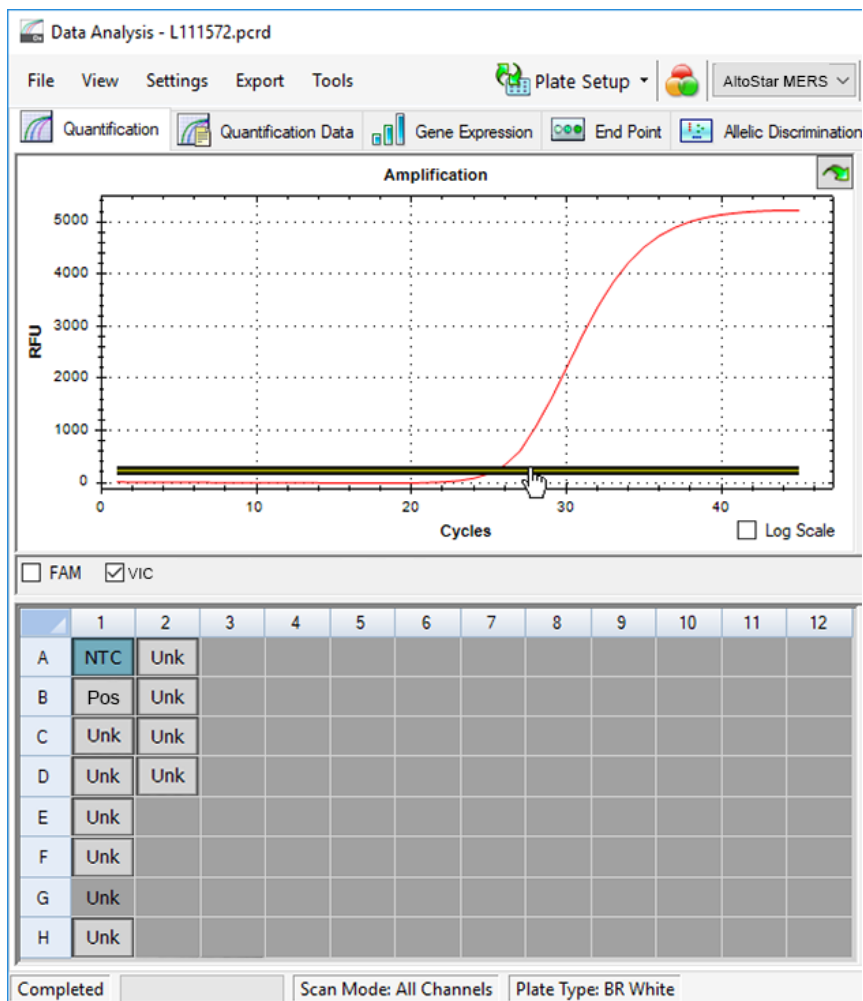

Figure 9: Data Analysis window: setting the VIC™ threshold
- At the left side of the Data Analysis window tick only the **VIC** checkbox for the detection channel of the IC (see figure 9).
- Select only the NTC well in the plate view of the Data Analysis window (see figure 9).
- Drag the threshold into the exponential area of the NTC signal (see figure 9).